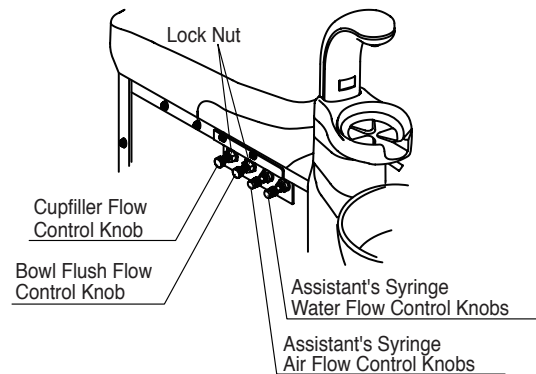

Fig.3-20 Flow Control Knobs in Cuspidor Unit Body
(3) Cuspidor Unit Body
A. Assistant's Syringe Flow Control Knobs (Fig.3-20)
B. Cupfiller Flow Control Knob (Fig.3-20)
C. Bowl Flush Flow Control Knob (Fig.3-20)